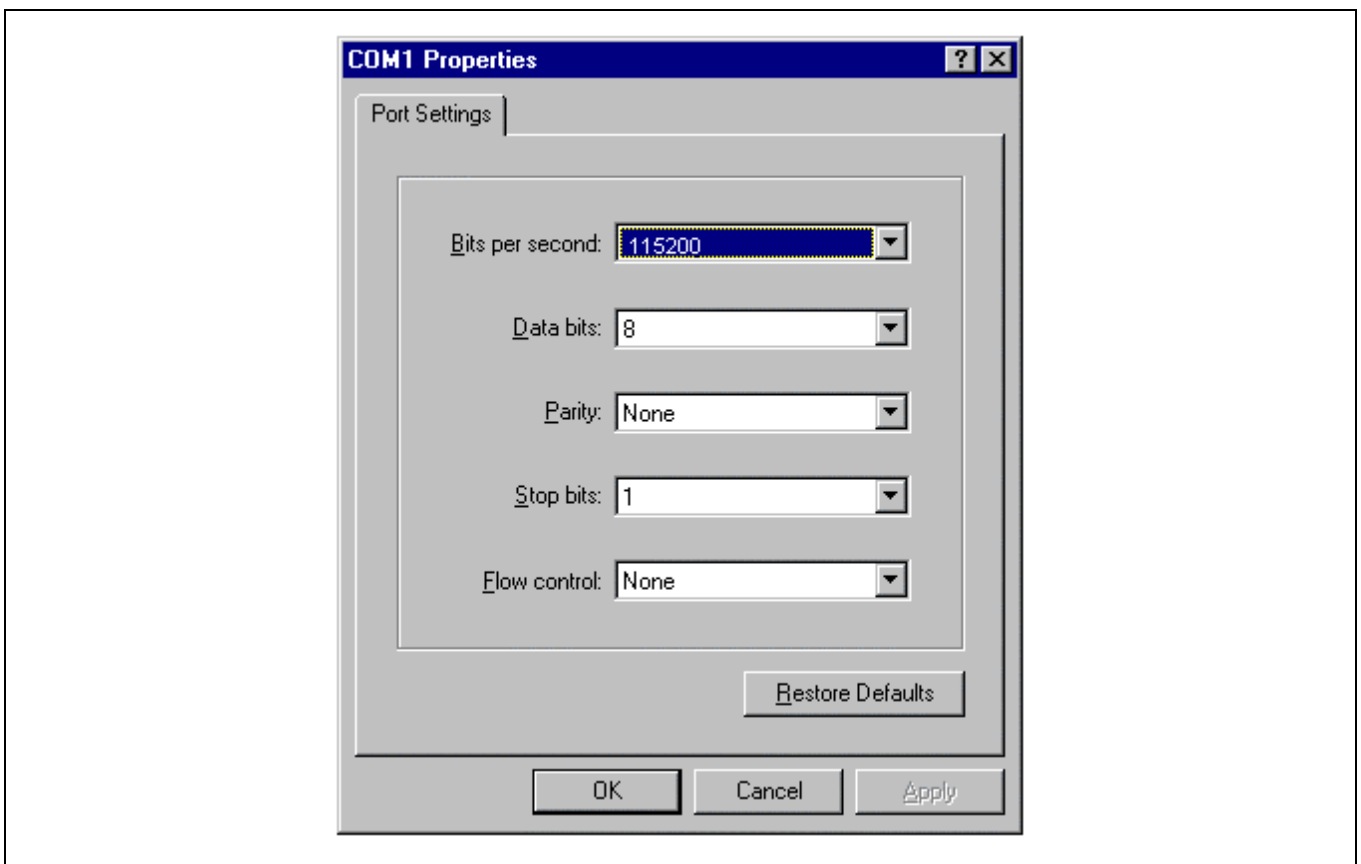

Figure 2-3. Setting Port Properties
3. Set the serial port properties. (See the Figure 2-3.)